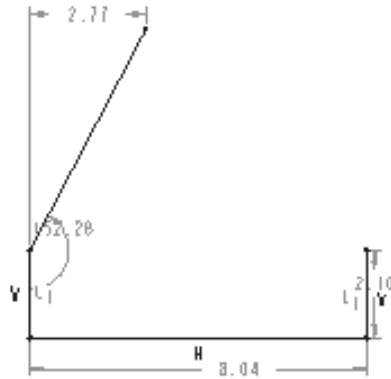

Figure 1-33 Lines with weak dimensions
7. When **L₁** constraint appears on the vertical line, use the left mouse button to specify the end point of the vertical line. You will notice that **L₁** constraint is displayed in gray color as shown in Figure 1-33. This suggests that it is a weak constraint. The rubber-band line is still attached to the cursor.
8. Move the cursor to size the line and specify the endpoint of the left inclined line, see Figure 1-33.
9. Press the middle mouse button to end line creation. You will notice that gray colored dimensions are applied to the sketch, see Figure 1-33. The color of these dimensions indicate that these dimensions are weak dimensions. These dimensions are automatically deleted anytime while you are completing the sketch or when you are adding dimensions and constraints manually. When deleting the weak dimensions, the system does not confirm their deletion.